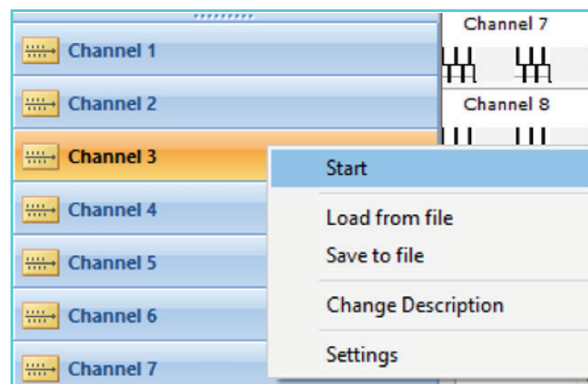

Figure 3.3.2 Configuring a single channel
- Right click on a given channel, e.g. Channel 3 in the lower left panel of MyoPULSE. The following window will appear on the screen with the following five dropdown menu options (figure 3.3.2):